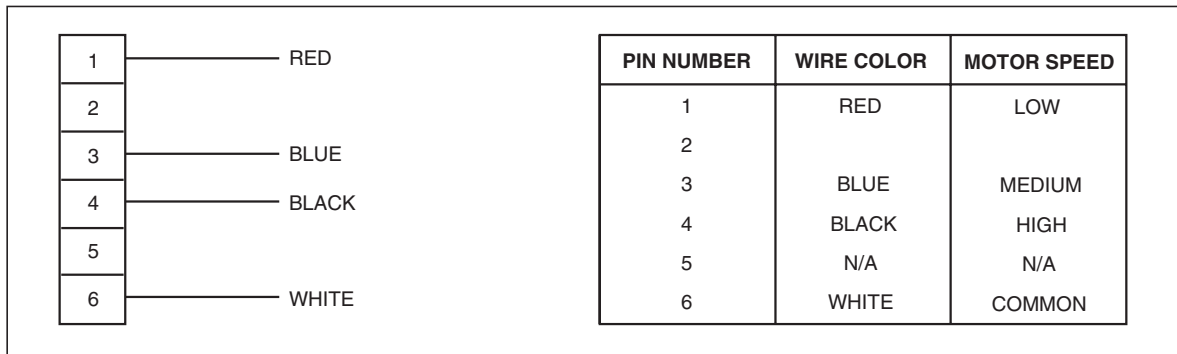

Figure 7. Motor Lead Connector
2. Remove the motor lead from terminal #4 of the blower relay. Cut the wire tie holding the motor lead bundle. The motor leads are color coded as shown in **Figure 7**.